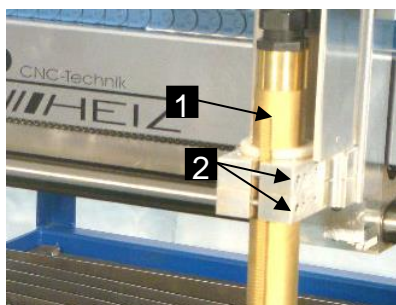

Figure 26: Accessory holder with Plasma Dongle
- 1 Place plasma Dongle in accessory holder (Fig. 26/1) on the Z-carriage.
- 2 Tighten screw (Fig. 26/2) lightly until a clamping is done
- Never tighten the screw (Fig. 26/2) for fixing the plasma dongle, excessively.